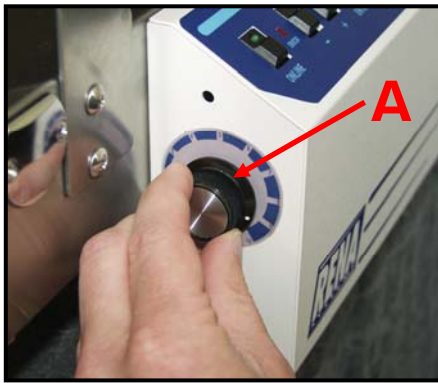

Figure 20
3. Turn the Media Thickness Dial [A] fully clockwise, as shown in **Figure 20**. This will cause the servo motor to raise the printhead carriage to its highest position.